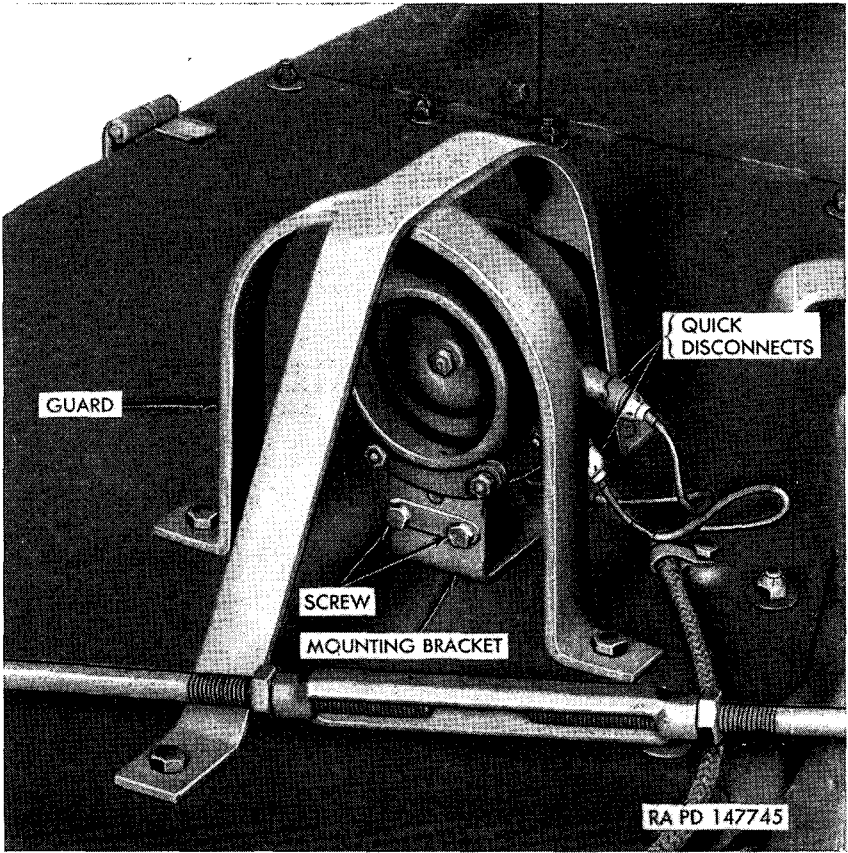

Figure 213. Horn—installed view.
b. HORN. The horn (figs. 213 and 214) is a vibrator-type unit mounted on the right fender to the right of and behind the right headlight. A bracket serves as a protective guard.
a. **REMOVAL** (fig. 213). Turn off master relay switch (fig. 18). Disconnect two cables at quick-disconnects at horn. Remove two cap screws and lock washers holding horn to mounting bracket on top of fender and remove horn.
b. **INSTALLATION** (fig. 213). Position horn on mounting bracket and secure with two cap screws and lock washers. Connect two cables at quick-disconnect connectors.